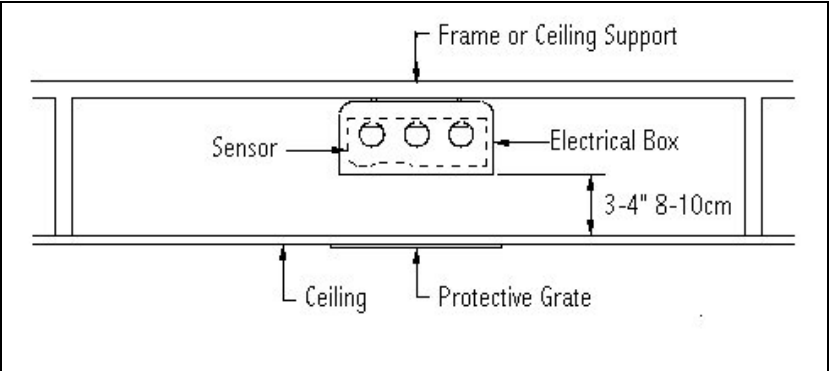

Figure 6: Recessed Sensor Mounting
3. A larger hole is required for recessed installation on a drywall ceiling. The junction box must be fastened to a beam or bracket holding it approximately 3” to 4” (7.5 to 10 cm) above the ceiling. See Figure 6.
10. Mount junction box to the ceiling securely. See Figure 6.